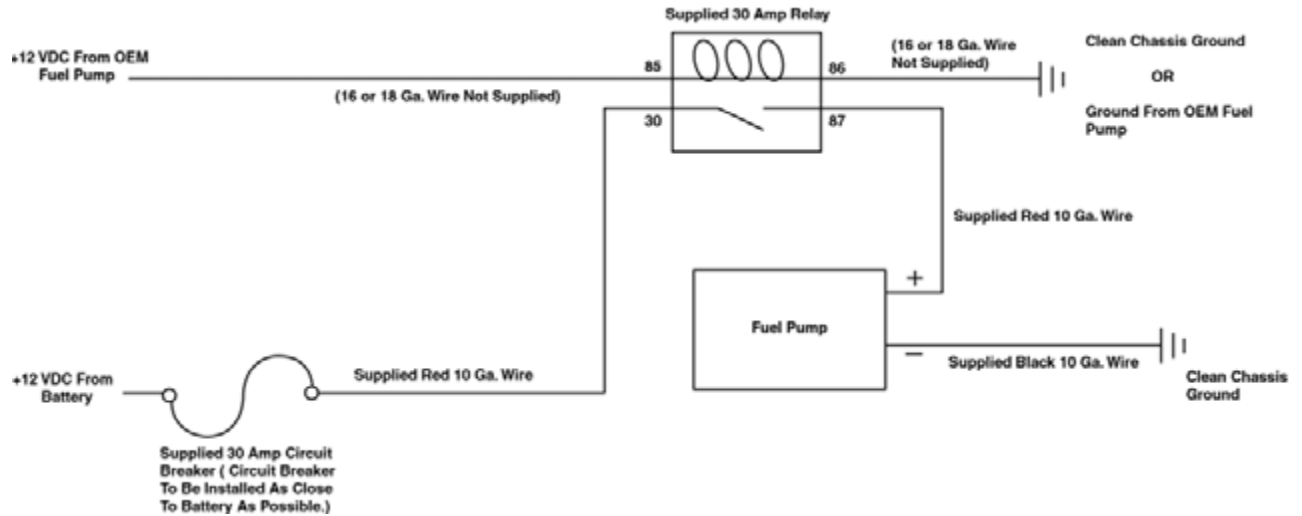

Figure 4-1
- 4-8. Ensure that electrical components and wires are connected properly (See Figure 4-1) and are clear of any moving suspension or drivetrain components and any exhaust components! Protect wires from abrasion and road obstructions or debris.